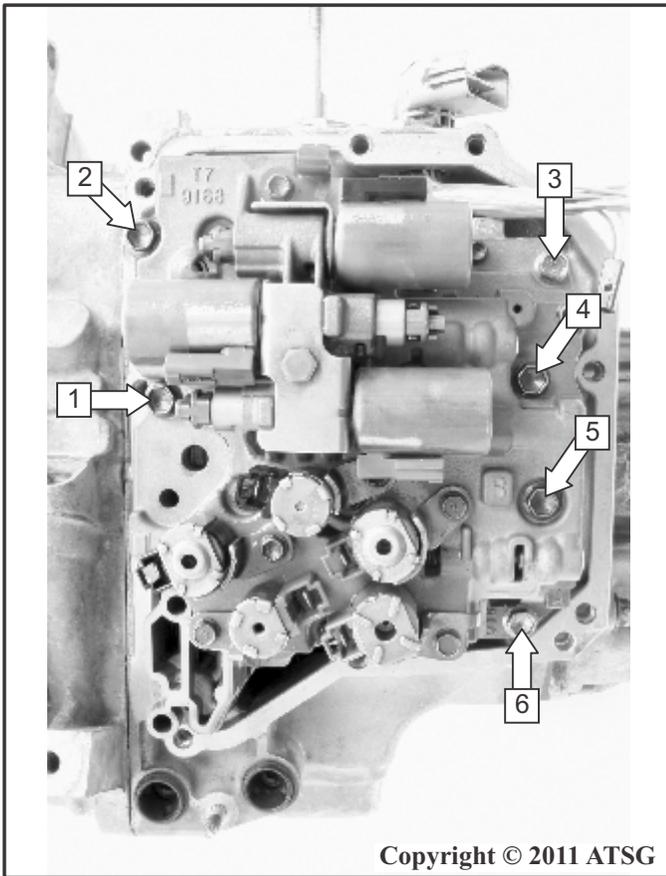

Figure 26
23. Remove the six 10 mm control valve body attaching bolts as shown in Figure 26.